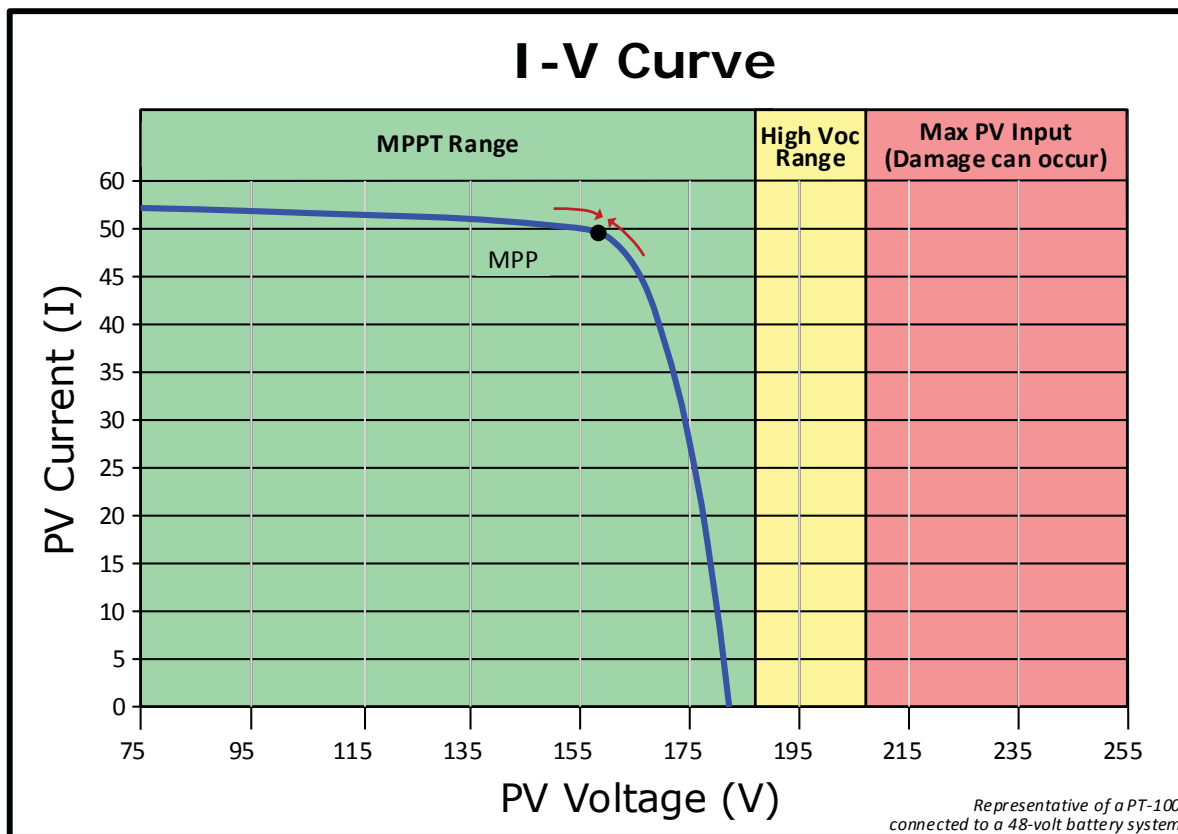

Figure 4-8, I-V Curve
The purpose of MPPT is find the point of the PV array's operating curve (shown in Figure 4-8) where the current (I) and voltage (V) are optimized at the same time—referred to as the Maximum Power Point (MPP). The MMPT algorithm in the PT-100 is designed to sample the output of the PV array and adjust the load it presents to the PV array until the voltage and current approaches the MPP. The sampling is continuous in case the PV maximum output power changes because of environmental conditions, such as panel shading, cloud cover, and panel temperature.